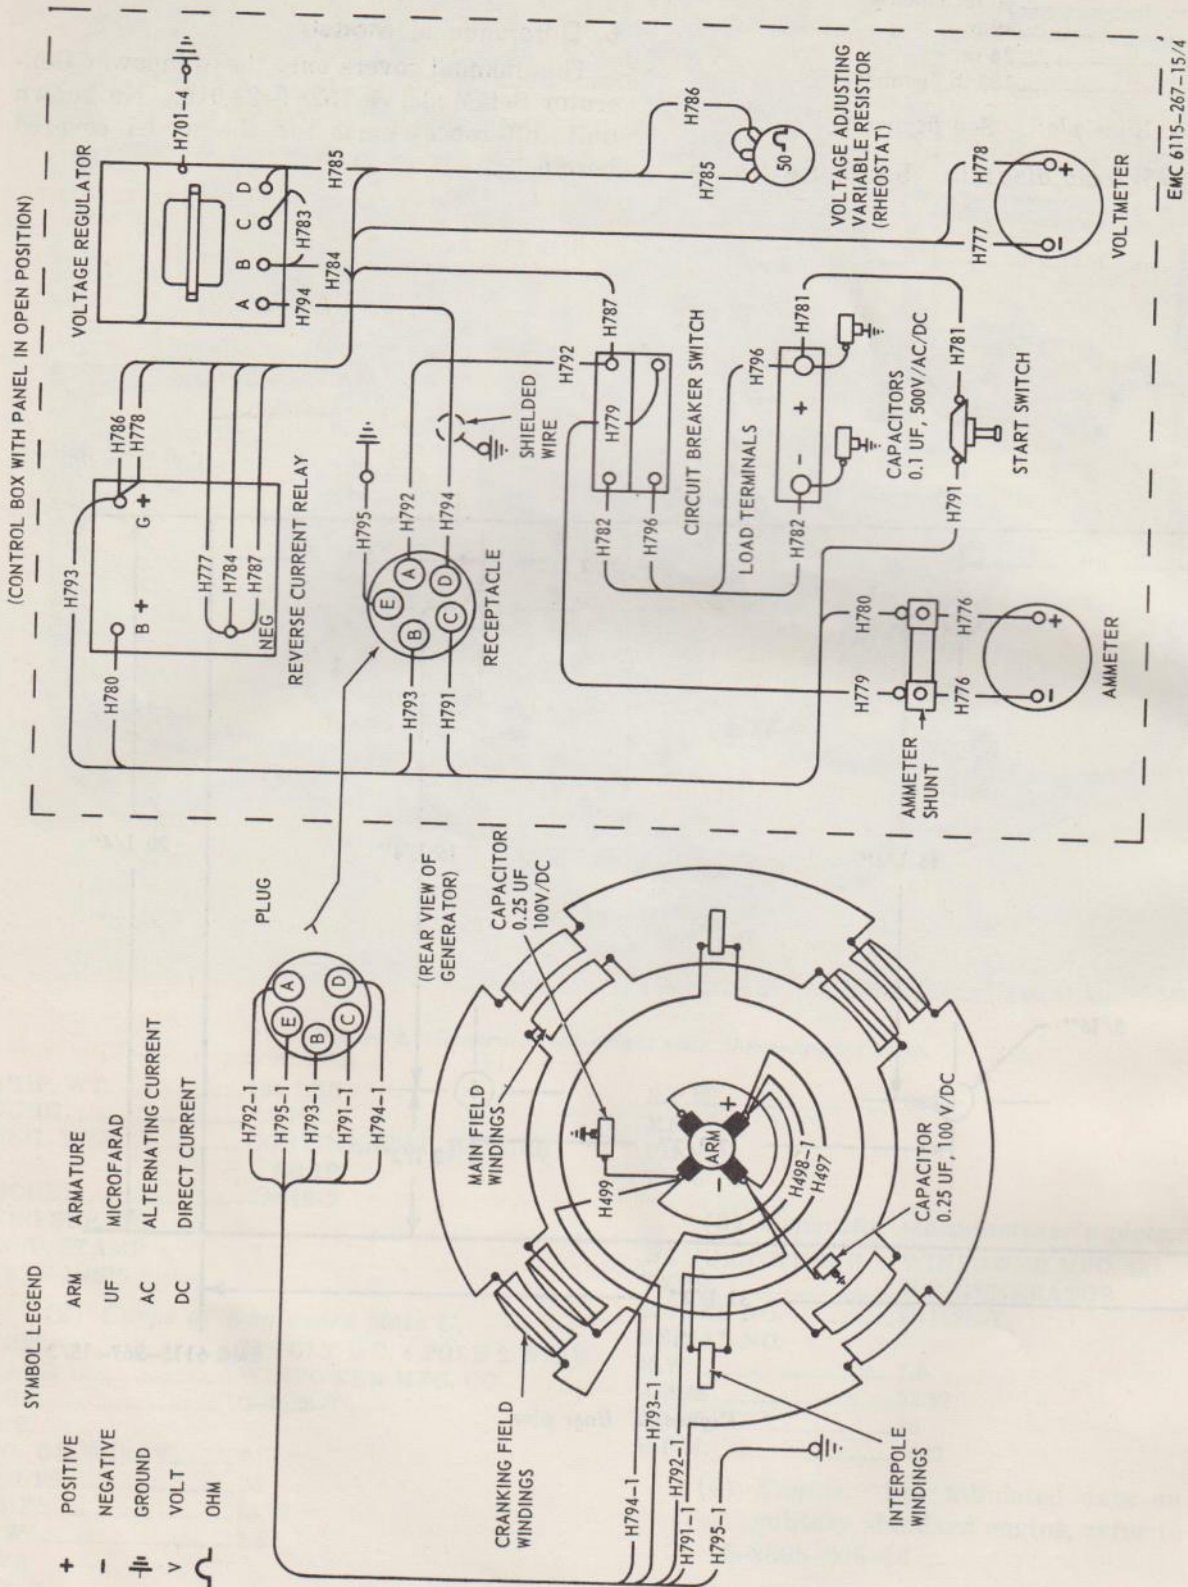

Figure 4. Practical wiring diagram.
(8) *Wiring diagram.* See figure 4.